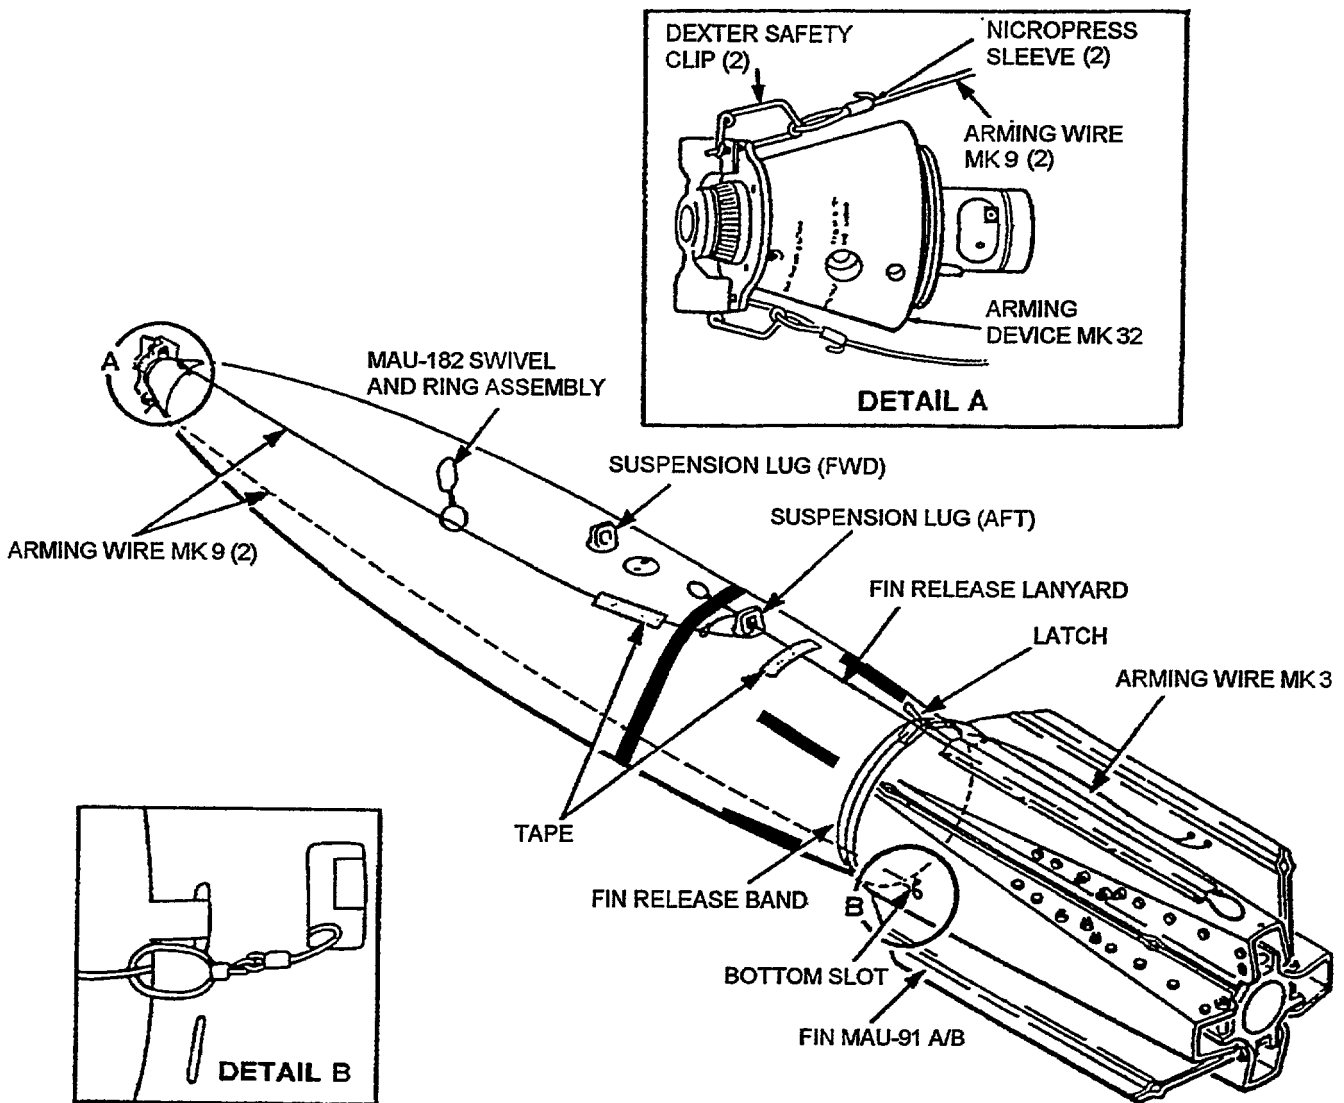

Figure 4-19B. Mine Mk 63 (w/Fin MAU-91A/B) Arming Wire Installation (F/A-18 Rigging)
- (1) Pass the swivel end of Arming Wire Mk 9 through back side of aft suspension lug. Pass the straight end of wire through eye of swivel and draw on wire until a 1-1/2 inch loop is formed at the suspension lug (Figure 4-19B).
- (2) Route the arming wire along left side of bomb, as viewed from the tail end.
- (3) Remove a safety clip, a Nicropress sleeve, and a Swivel and Ring Assembly MAU-182 from the Arming Hardware Kit Mk 165.
- (4) Open the safety clip and install it in vane (outer hole) of arming device, (Figure 4-19B); then close the clip and slide it aft.
- (5) Slip the Swivel and Ring Assembly MAU-182 onto arming wire; then slip the Nicropress sleeve onto the wire also.
- (6) Pass arming wire through eye of safety clip. Draw the wire taut, being careful not to reduce the size of the 1-1/2 inch loop formed in wire at the suspension lug.
- (7) Bend the free end of the wire back on itself. Slide the Nicropress sleeve over the free end to within an inch or so of the safety clip. Bend the free end back on sleeve and cut off excess wire in line with forward edge of sleeve (Figure 4-19B).
- (8) Secure the Nicropress sleeve in place by crimping it to arming wire with pliers. Ensure that the short segment of wire lies flat on sleeve.
- (9) Secure the wire to the bomb with pressure-sensitive tape, positioning the tape lengthwise along the axis of the bomb at the location shown in Figure 4-19B.
- f. F/A-18 Aircraft Only: Install Arming Wire Mk 9 in lower vane of Arming Device Mk 32 as follows (Figure 4-19B):
- (1) Pass the straight end of Arming Wire Mk 9 through the bottom slot in Fin MAU-91A/B, which is located immediately behind the release band. Pass the straight end of wire through the eye of swivel at opposite end; then draw on wire until it is tightly secured to slot.
- (2) Remove a safety clip and a Nicropress sleeve from the Arming Hardware Kit Mk 165.
- (3) Open the safety clip and install it in vane (outer hole) of arming device (Figure 4-19B, detail A); then close the clip and slide it aft.
- (4) Slip the Nicropress sleeve onto arming wire.
- (5) Pass arming wire through eye of safety clip. Pull arming wire through eye so that only enough slack exists in the wire to prevent the safety clip from exerting any tension on the arming device (wire not preloaded).
- (6) Bend the free end of wire back on itself and slide the Nicropress sleeve over the free end to within an inch or so of the safety clip. Bend the free end back on sleeve and cut off excess wire in line with forward edge of sleeve.
- (7) Secure the Nicropress sleeve in place by crimping it to arming wire with pliers. Ensure that the short segment of wire lies flat on sleeve, as shown in Figure 4-19B.